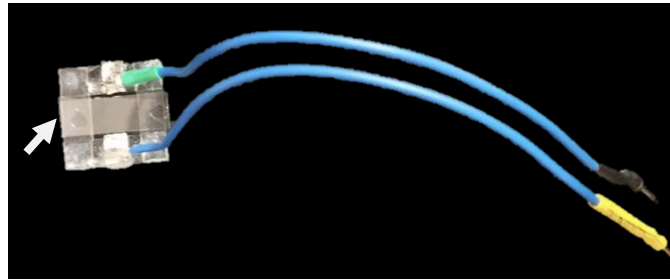

Figure 1. Stimulator Insert with a coverslip piece (white arrow)
2. Cut a piece of a new coverslip and fix it with some grease into the 'Stimulator insert' (Figure 1).